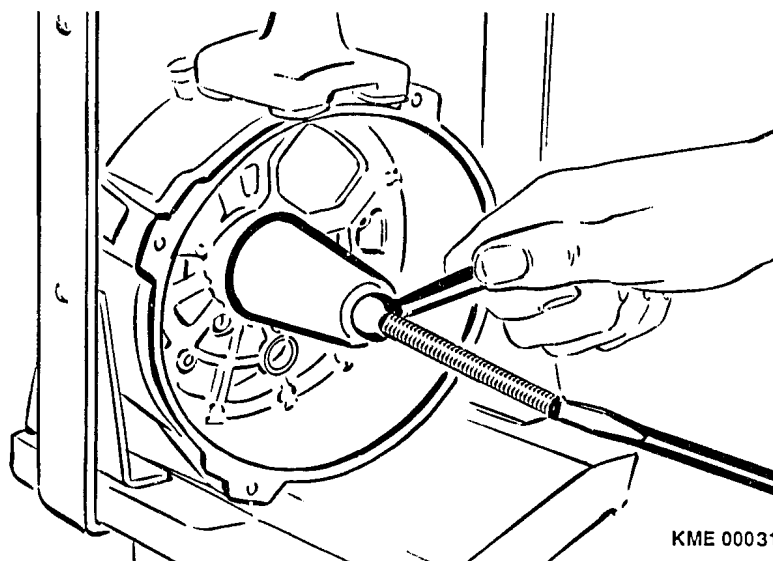

**Figure 15 Testing of W Terminal Dampening Resistor**
1. The W Terminal incorporates a dampening resistor. Using a Multimeter MMD 302, connect one lead to the exterior portion of the W terminal and connect the other lead to the other side of the W Terminal. The Multimeter should read between 3.1 and 3.5 k (kilohm). If the resistance is above or below this range, the W terminal is to be replaced as an assembly. (Figure 15)